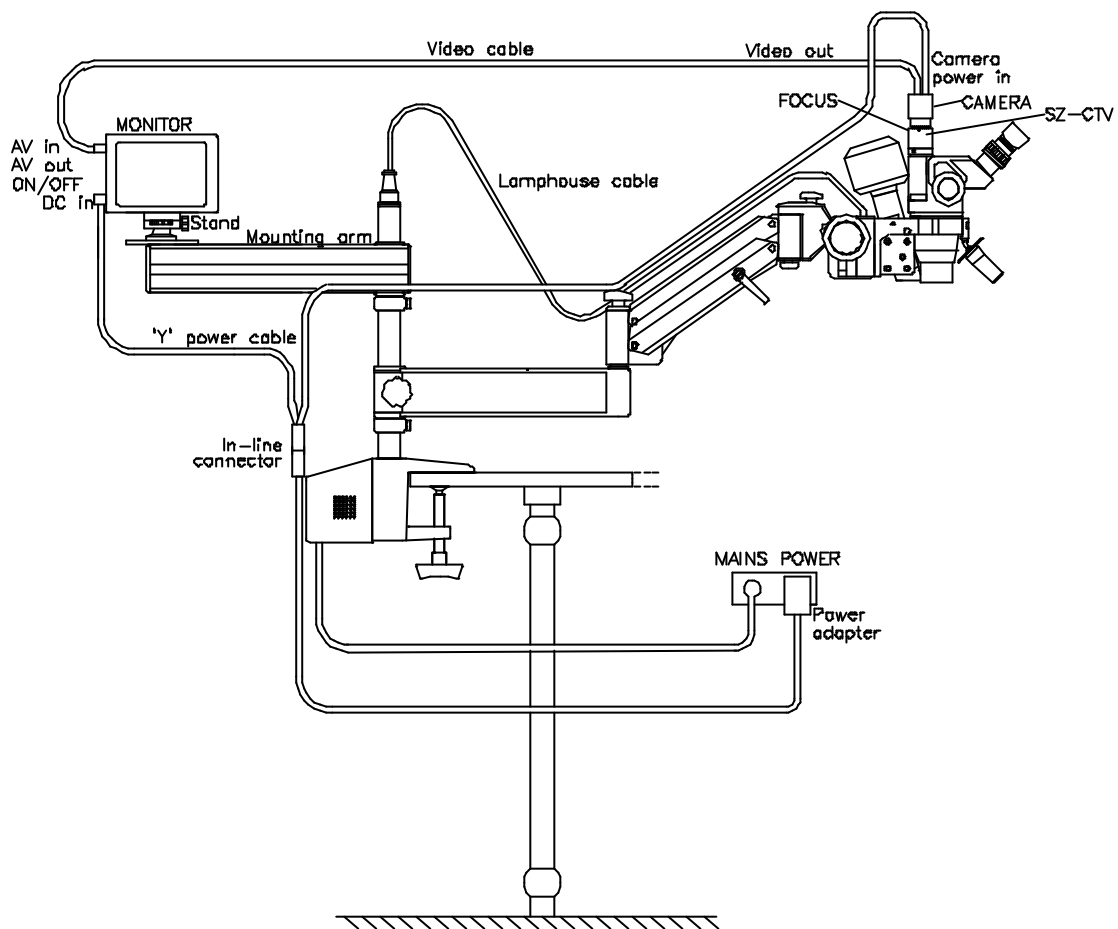

Figure 15 Video System Schematic
8. Attach the 'Y' cable to the power adapter cable using the in-line connectors. Connect the small right-angled power plug to the monitor DC in socket and the large straight power plug to the camera DC in socket. Plug the power adapter in to a mains socket using a mains plug adapter as necessary. Note that the power adapter will automatically detect mains voltages between 100 and 240V, 50-60Hz. Refer to figure 15.
9. Connect the Monitor (AV in) to camera (video out) using the video cable. Switch the monitor on. Refer to figure 15.
13. If the picture on the monitor is unfocussed, adjust focus at rear of the SZ-CTV attachment below the camera. Refer to figure 15.